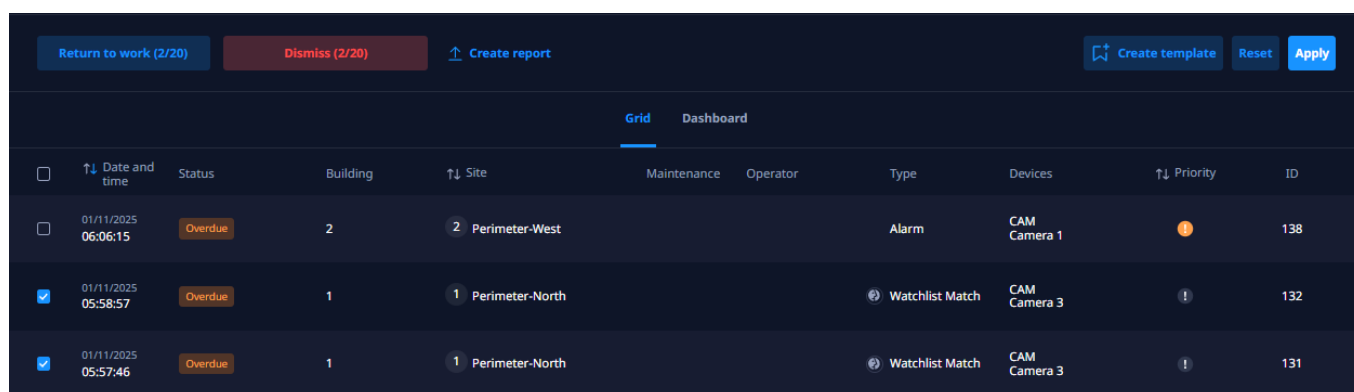

Figure 68. Selecting multiple incidents
3. Select all incidents to be reopened and click the **Return to work** button (see Figure 68).
4. Click the **Dismiss** button (see Figure 68).